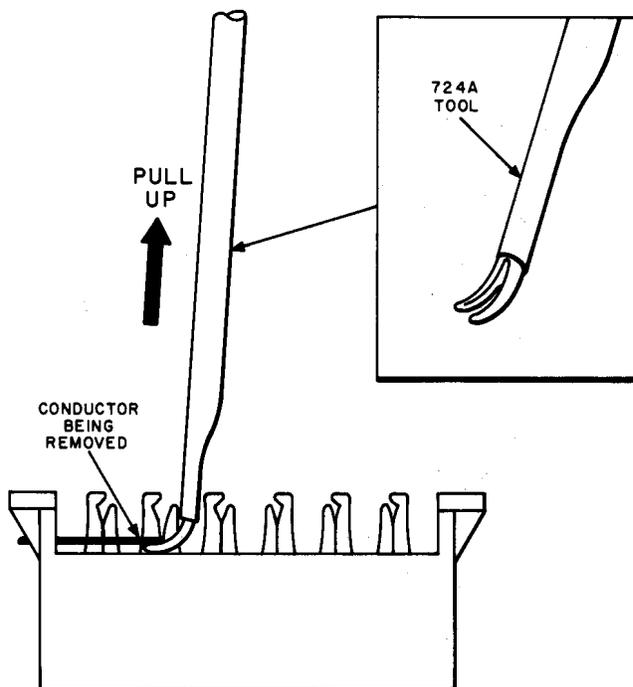

Fig. 4—Removing Conductor With 724A Tool
2.15 The 724A tool (Fig. 4) is used to remove conductors from the terminals of 66-type connecting blocks. The tool consists of a 2-pronged fork with an insulated handle. The fork is sized to fit around the beams of the terminal and underneath the seated conductor. Use of the 724A tool reduces the possibility of disturbing or degrading adjacent wire connections during removal of wire.